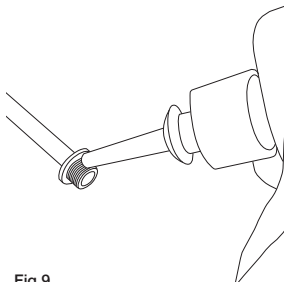

Fig.9
- Prior to refitting, low-resistance Loctite 22 must be applied on the thread of the screws (Fig. 9).